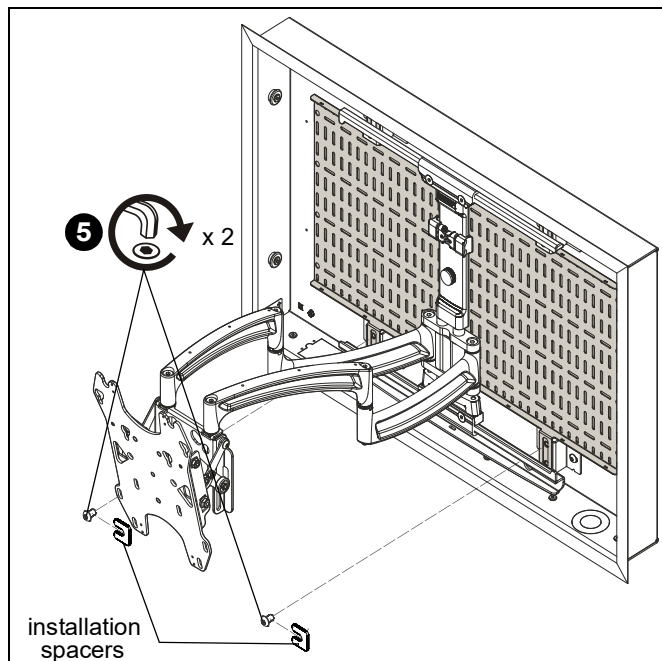

Figure 2
5. Attach Thinstall mount and accessory plate (A) to two lower attachment brackets following TA500/501 installation instructions. (See Figure 2)